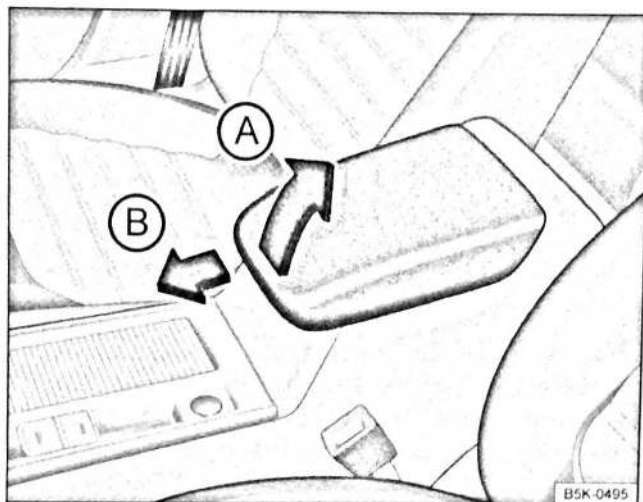

Fig. 51 Front centre armrest
To *lift*, push the centre armrest up gradually in the direction of the arrow $\Rightarrow$ Fig. 51 (A).